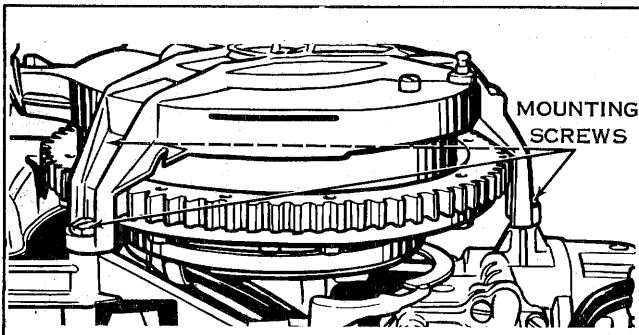

FIGURE 1
Install the battery near the junction box. See Figure 5 for preferred locations and limiting dimensions. **IMPORTANT:** Do not place battery directly under front carrying handle of motor. When motor is tilted battery may be damaged. For mounting the battery, use a frame or box securely fastened to the boat. A loose battery may shift in the boat, damaging battery or other equipment. If a battery box and cover are used, drill two vent holes (3/16" will do) on each side of the cover to allow battery gas to escape. This gas is explosive when confined. **CAUTION:** Connect the positive battery lead (RED) from the junction box to the positive (+) battery terminal. Attach negative lead (BLACK) to negative (-) battery terminal. See Figure 1. Tighten connections securely. For service information for the battery, refer to instructions provided by the battery manufacturer. Fuses for accessory take-off and generator are in the junction box.
2. Remove the three mounting screws holding manual starter to powerhead and lift off the complete starter assembly. See Figure 1.